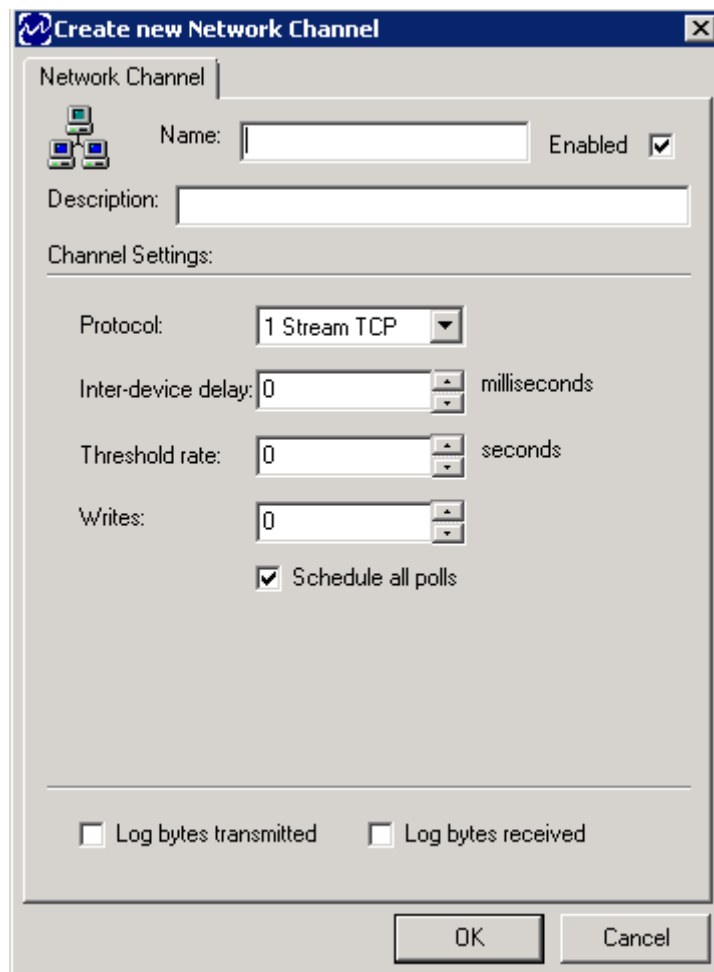

Figure 14 - Create New Network Channel Window
The **Create New Network Channel** window (Figure 14) displays the settings available for configuring a **Network Channel**.
- The **Create New** window appears (Figure 14).